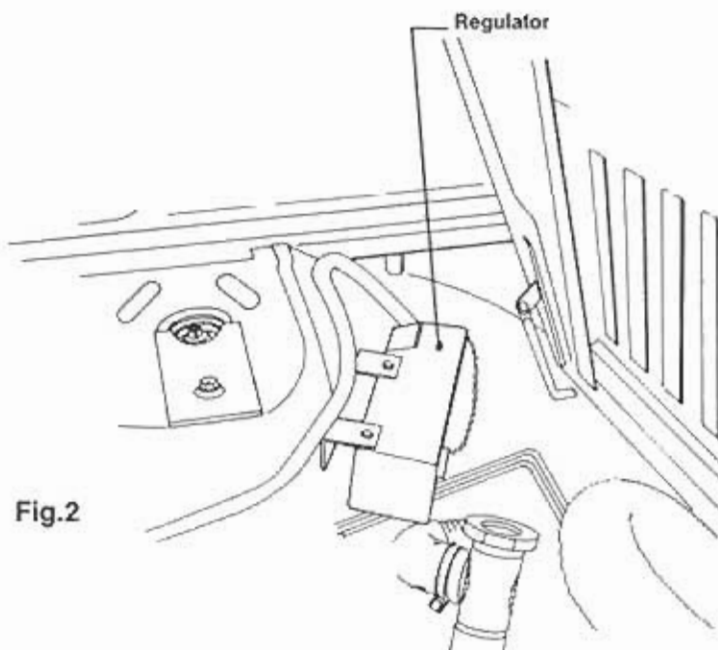

Fig.2
3. Align regulator brackets with lower edge of shock tower bracket. Mark and drill 2, 3/16" holes. Install regulator using 1/4-14 self-tapping screws. Fig. 2